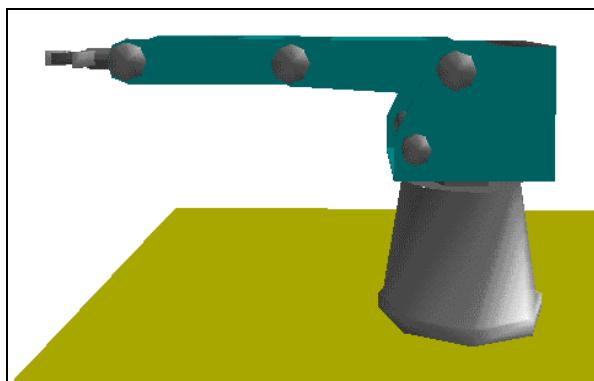

Figure 3-1: Position #1
- 3 Using the Manual Movement dialog box, bring the robot arm to the position illustrated in Figure 3-1.